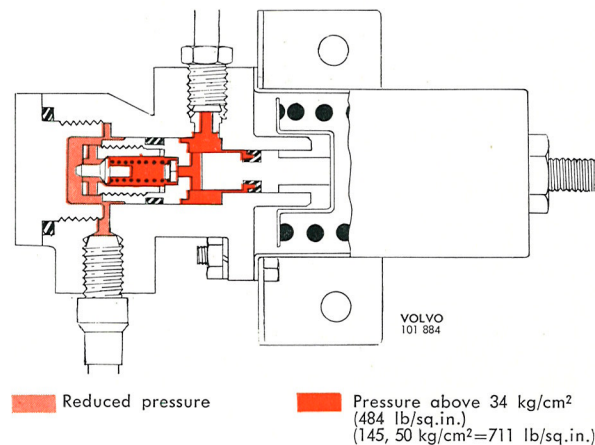

Fig. 5-42. Reducing action
cylinder and front wheel cylinders, the hydraulic force in cylinder (6) moves the piston to the left so that the valve rod comes up against its stop and opens the valve, this causing the pressure in cylinder (3) to increase. Due to the larger pressure surface in this cylinder, the plunger is moved to the right again and the valve closes. In this way, the piston assumes a position of balance and the outgoing pressure from the brake valve will be lower than the ingoing pressure, see Fig. 5-42. The difference in these pressures is determined by the different areas and spring tension.